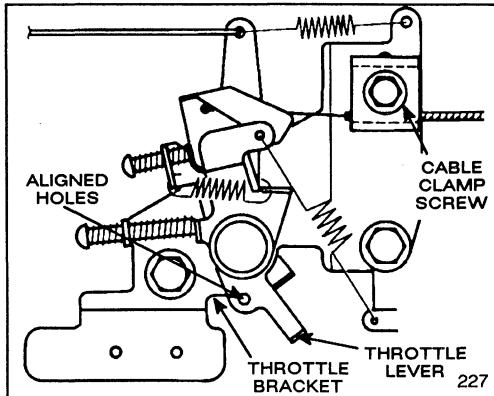

Figure 15
4. Loosen cable clamp screw until throttle cable slides (Fig. 15). Align